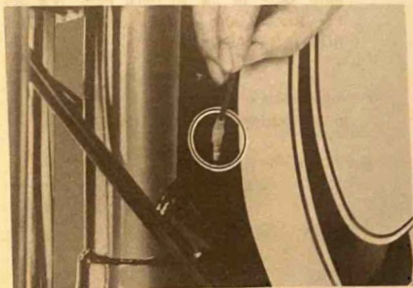

Fig. 34
18. Pass the lead wire (coming from the kill switch) through the hole located at the left side behind of the steering head, as shown in Fig. 34. For detailed cable routing, refer to "CABLE ROUTING DIAGRAMS".